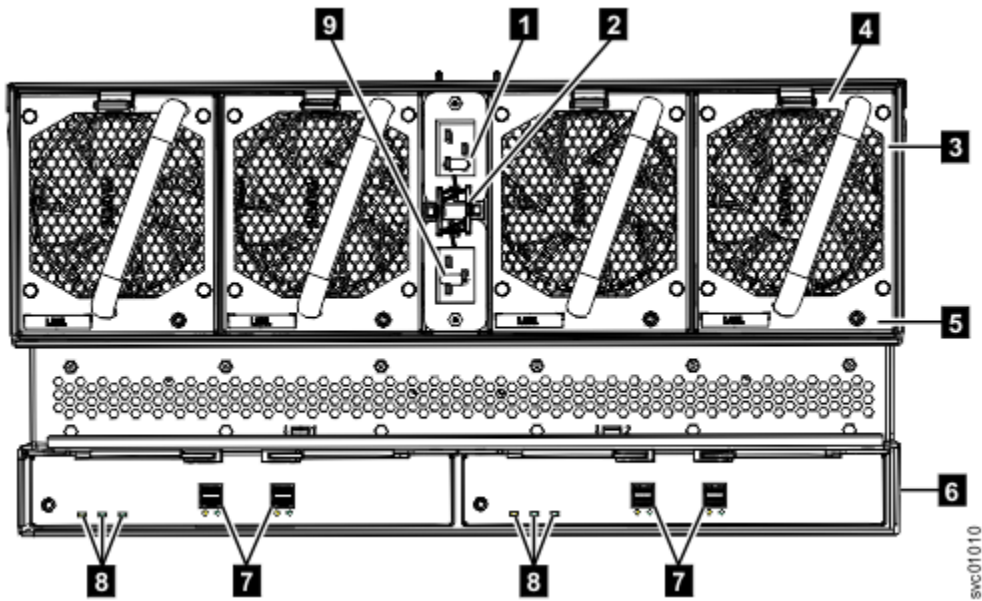
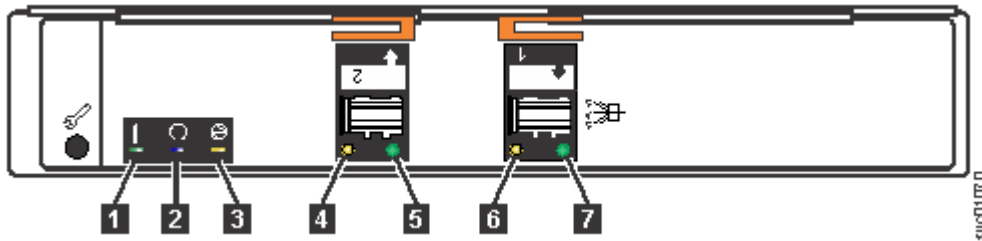

Figure 69. LEDs on the back of the expansion enclosure
Figure 70. LEDs on the back of the expansion canister
Table 13 on page 64 explains the function and status that is indicated by each of the LEDs. The power cords for each PSU are accessible from the rear of the expansion enclosure (1), as shown in Figure 69 on page 67.
Figure 69 on page 67 shows the rear view of a 2077-92F, 2077-A9F expansion enclosure. LEDs on the rear of the enclosure provide information about each fan module, each expansion canister, and SAS links.
The expansion enclosure has four fans. Each fan has one LED; for example, Figure 69 on page 67 shows the location of the LED (5) for fan number four. When a fan is operating normally, the LED is not lit. If a fault is detected, the amber LED is lit.
As Figure 69 on page 67 also shows, the expansion enclosure contains two expansion canisters. Each expansion canister contains its own set of LEDs, as shown in Figure 70 on page 67. The LEDs provide status information about the expansion canister itself and the SAS connections.